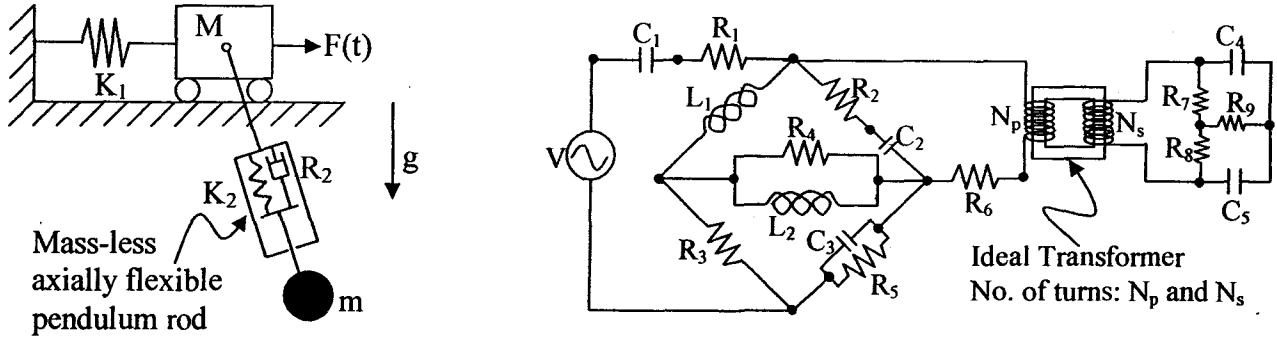

Figure 1
1. Draw augmented (power directed and causalled) bond graph models of the two systems shown in Figure 1.